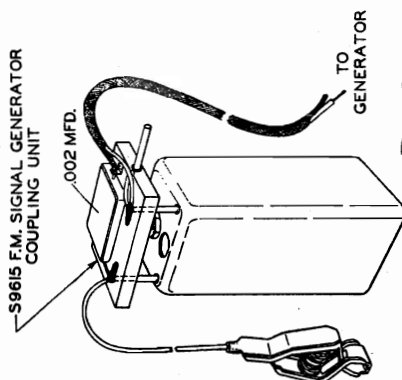

FIG. 2
Holes have been placed at the top of all the FM IF transformer shields so that a signal generator may be connected across the transformer secondaries to facilitate alignment. (see fig. 2) A very high input signal will be necessary to get an output indication for the discriminator alignment. Should the generator be unable to supply sufficient signal, the Discriminator input stage may be aligned first in order that its gain may be utilized to raise the input signal to the discriminator.
2. Feed on unmodulated signal, at the IF frequency, through the dummy antenna (fig. 2) to the 3rd IF transformer secondary. (The IF frequency is stamped on the IF transformer shields.) Adjust the slug B4 for resonance. Rotating the slug B4 through the resonance point will cause the output meter to swing through zero from positive to negative or vice versa. A zero reading on the meter indicates the desired resonance point.
6. (Meter at HALF load) Connect the generator to the converter grid. A small socket is provided near the converter tube which will accommodate the side pin of the #S9615 Dummy Antenna assembly (fig. 2) to facilitate this generator connection. Adjust the 1st IF transformer trimmers A1 B1 for maximum output.